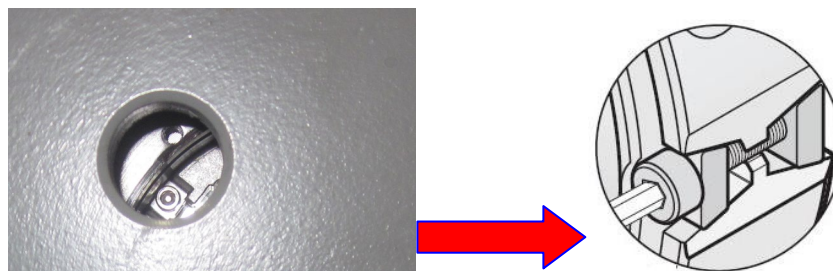

Figure 16 Loosen M2.5 Locking Screw
2. Loosen the encoder locking screw M2.5, as shown in Figure 16, with hex wrench (2mm) through the encoder cover hole. The screw does not need to be removed.